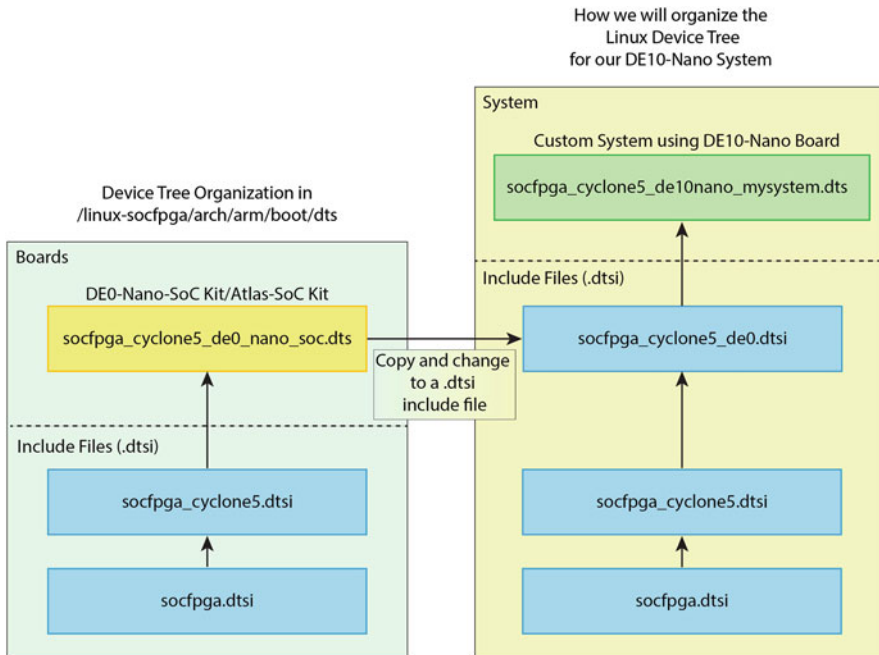

Fig. 9.10: Device tree source file hierarchy
These files are organized in a hierarchy as shown in Fig. 9.10 (left side). The Intel SoC FPGA devices have a base include file `socfpga.dtsi` that describes the hard processor system (HPS) that is common across these SoC FPGA devices. The Cyclone V SoC FPGA devices use the base `socfpga.dtsi` device tree hardware description by including this file (which is why it is called an include file and why it has the `.dtsi` extension). The information specific to the Cyclone V SoC FPGA is placed in the `socfpga_cyclone5.dtsi` file, which is also an include file. Thus include files can include other include files. When include files are organized this way, device tree information can be overlaid (added or overwritten) over the information that was pulled in earlier. Then there is specific board information, which in the case of Fig. 9.10 (left side) is the `socfpga_cyclone5_de0_nano_soc.dts` file that is the device tree file for the DE0-Nano-SoC or Atlas-SoC board.
- Step 1: Turn the `de0_nano_soc` board .dts file into a .dtsi file that we will include in our device tree source file (as illustrated in Fig. 9.10).